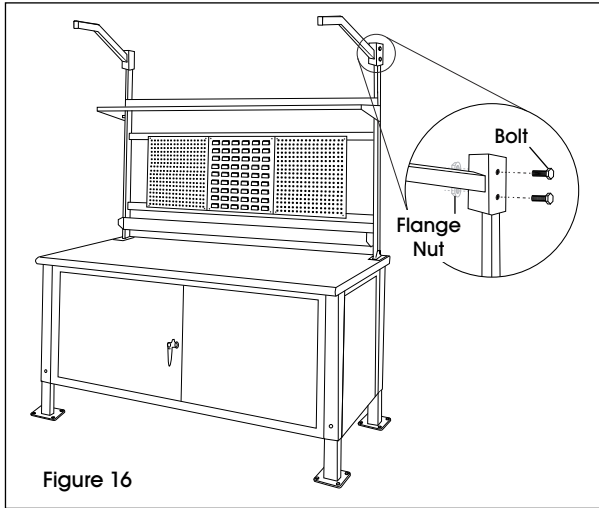

Figure 16
1. Line up light brackets (9) with uprights at desired height.
2. Secure light brackets to uprights with four 2" bolts and M6 flange nuts. (See Figure 16)